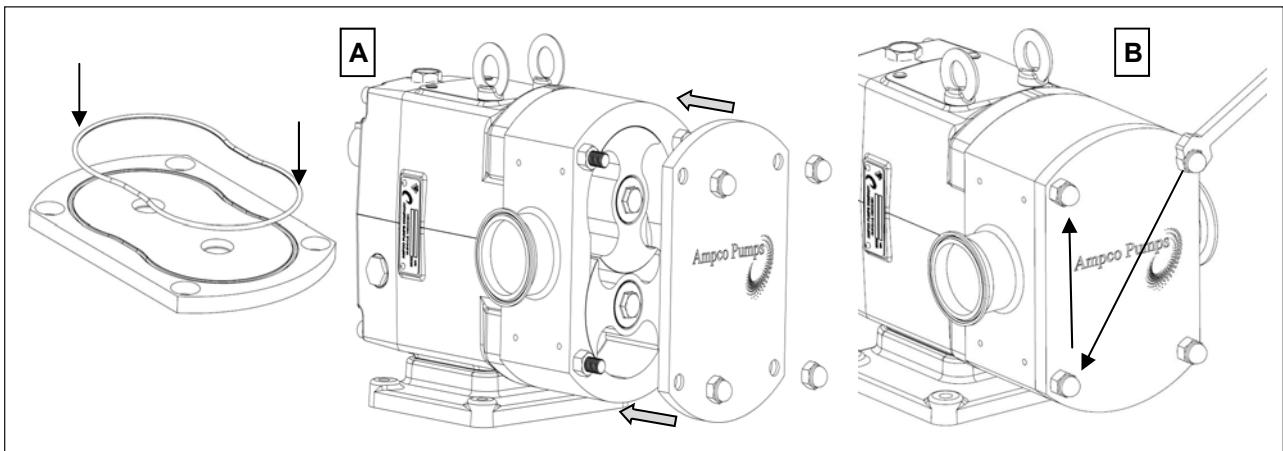

Figure 47. Cover Installation
5. Remove and discard the front bearing seals from the bearing retainers, by pressing them out (Figure 47). Clean the bearing retainers as they will be reused.